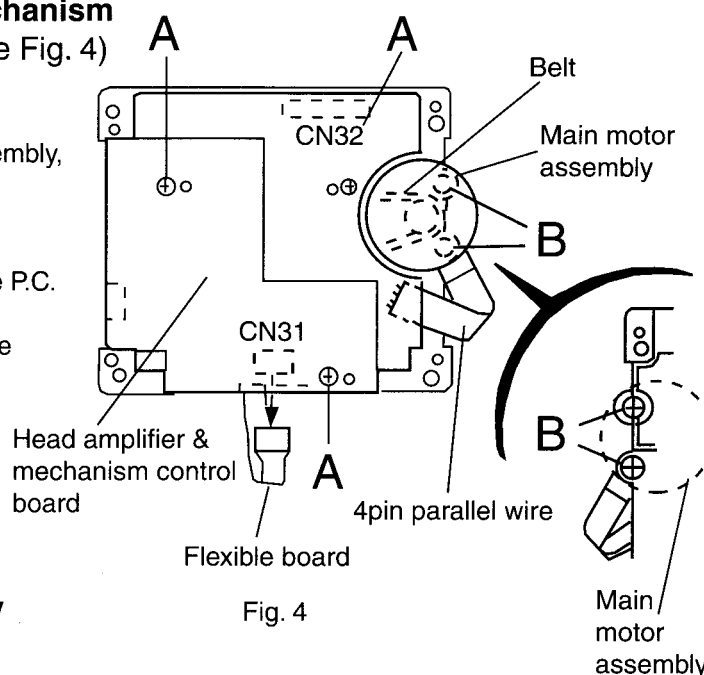

Fig. 4
(See Fig. 4)
1. Remove the two screws B retaining the main motor assembly (See Fig. 4 and 4a).